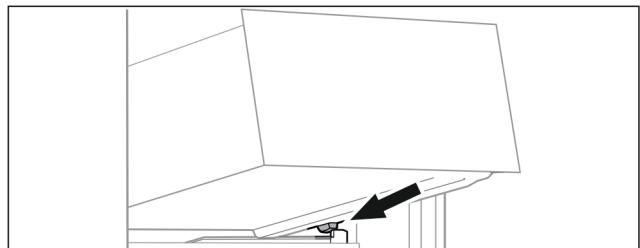

Fig. 95
- ▶ Place drawer at an angle behind the stoppers on the moulded rib. (see Fig. 95)